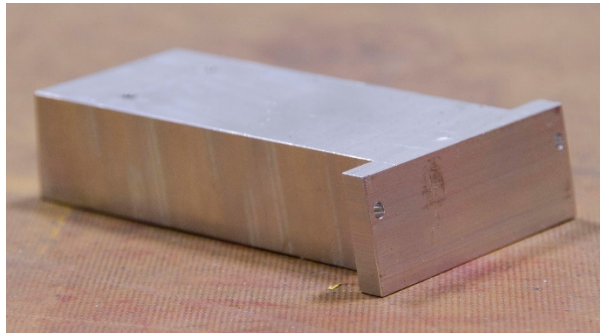
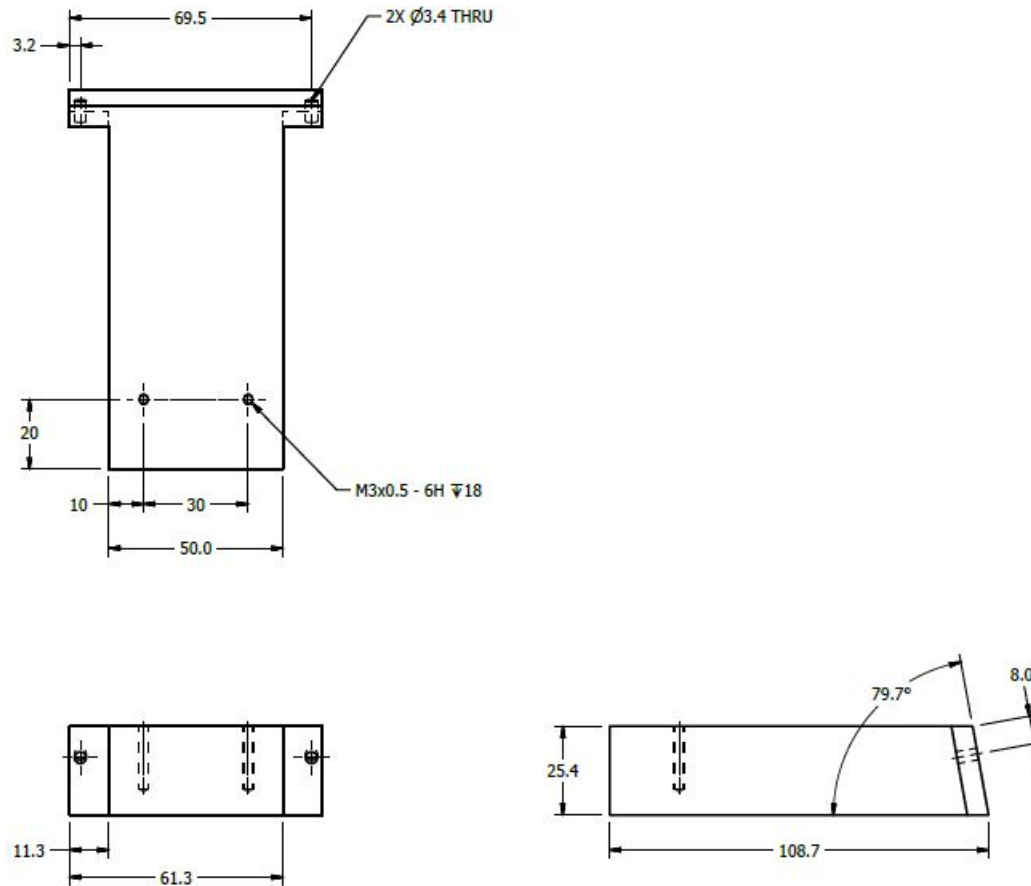

Figure 19-4. External dimension fixture pelvis standoff block
Figure 19-6. Pelvis standoff block dimensions
5. Remove the two M3 x 0.5 x 10 mm FHCS from the pelvis accelerometer cover (472-4371) on the posterior side of the pelvis. Install the pelvis standoff block (DL472-9010) in place of the pelvis accelerometer cover using two M3 x 0.5 x 16 mm SHCS (Figure 19-4 through Figure 19-6). The angled surface of the block is installed against the pelvis, with the longer (108.7 mm) edge of the block oriented downwards.